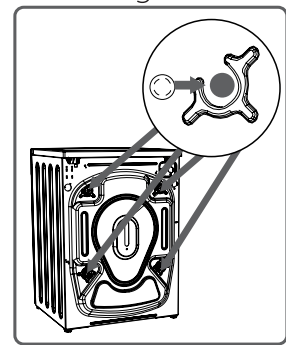

Fig 4
- 3:** When the transport bolts have been removed, insert the plastic hole pulgs found in the accessories bag into the holes. (Fig 4)